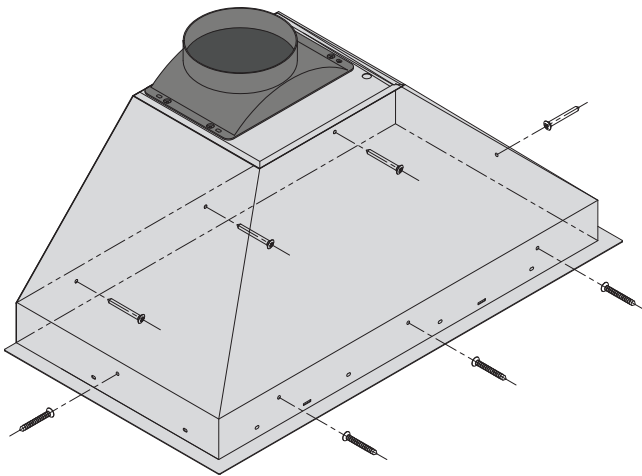
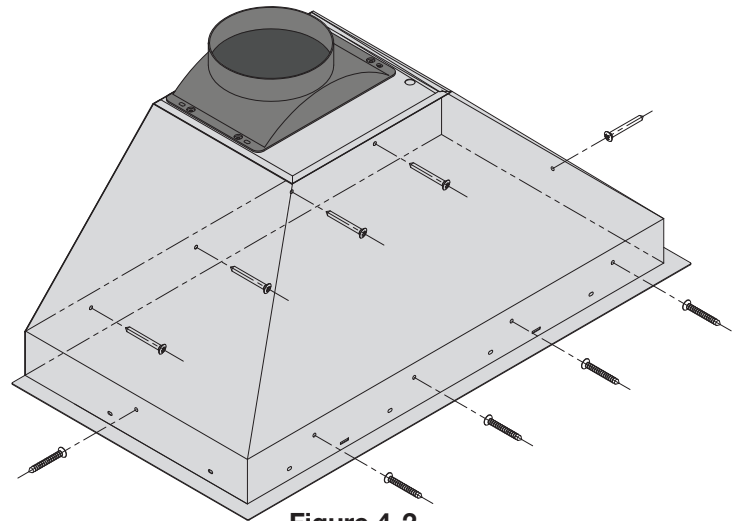

Figure 4-1
Figure 4-2
- Attach to cabinet structure aligning appropriate mounting screws to pre-drilled holes (see figure 4-1 for 28 inch and figure 4-2 for 34 inch).